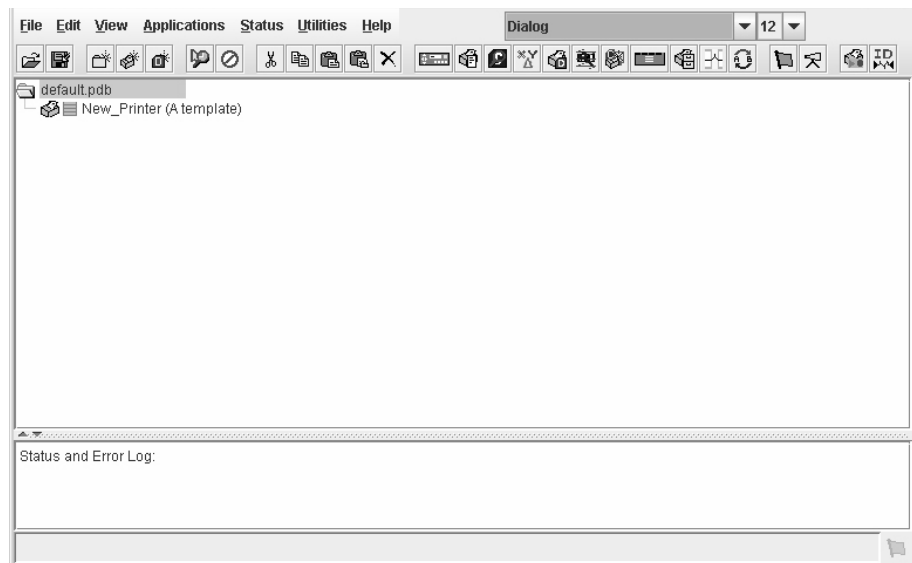

Figure 1. Printer Database Main Window
2. From your operating system, launch the PMU. Click the splash screen to see the main window of the printer database more clearly. See Figure 1.